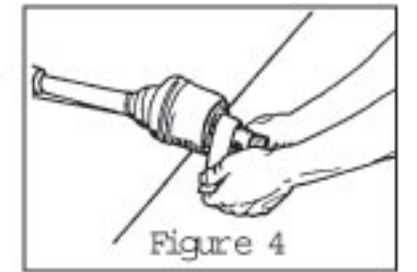
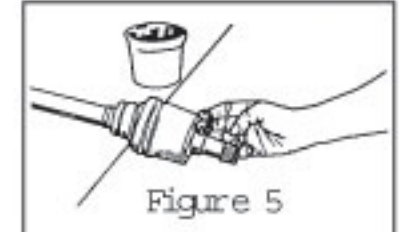

Figure 4
Figure 5
5. Before reinstalling the axle, sand the seal surface on the inner C.V. joint, (Figure 4), and apply a generous amount of assembly lube or axle grease, (Figure 5).